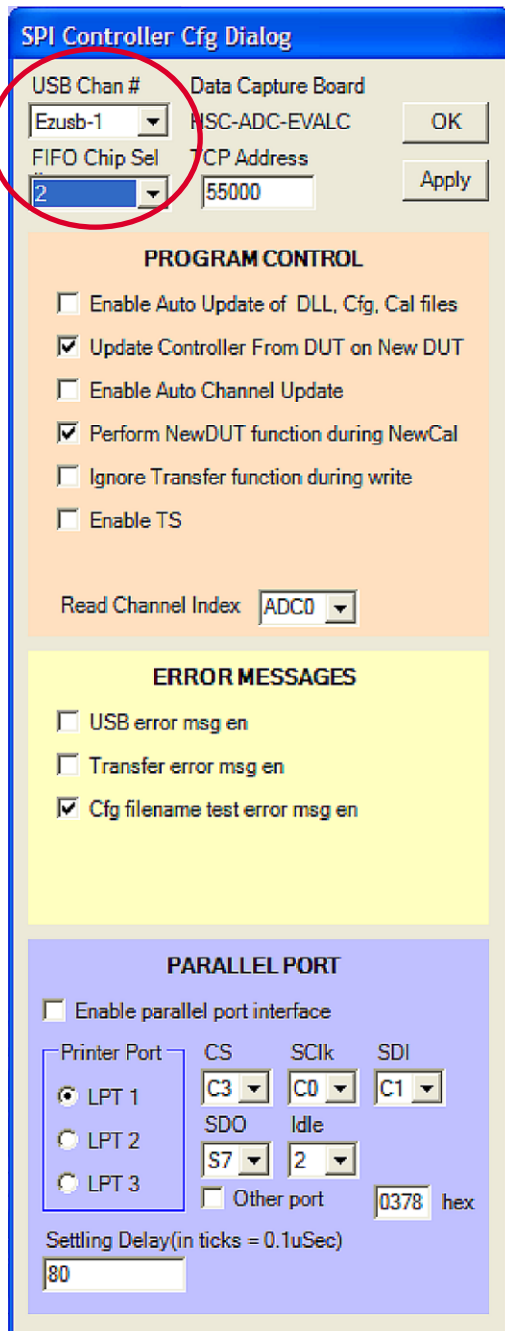

Figure 10.
3. Select **Config** and then **Controller Dialog** and make sure that **FIFO Chip Sel** is set to 2 and that **USB Chan #** is set to the same value as the AD9267 SPIController Cfg dialog (see Figure 10).